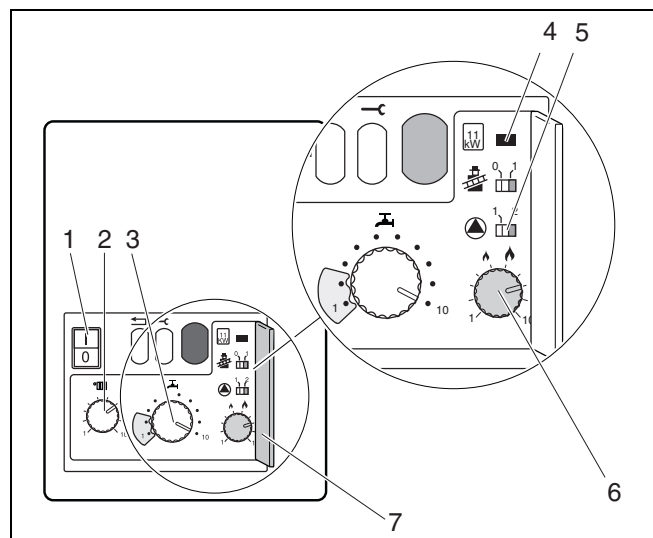

fig. 31 Controls
Key to fig. 31
- Set the controller (fig. 31, item 2) to the desired maximum flow temperature in accordance with the system design and table 6.
- Use the controller (fig. 31, item 3) to set the desired domestic hot water temperature in accordance with table 7.
- Open the cover of second control level (fig. 31, item 7).
- Set the heating capacity in accordance with the required heat demand (table 8) on the controller (fig. 31, item 6). Take into account the appropriate losses caused by the flue gas system (table 9).
- Move the switch (fig. 31, item 4) to position "1".